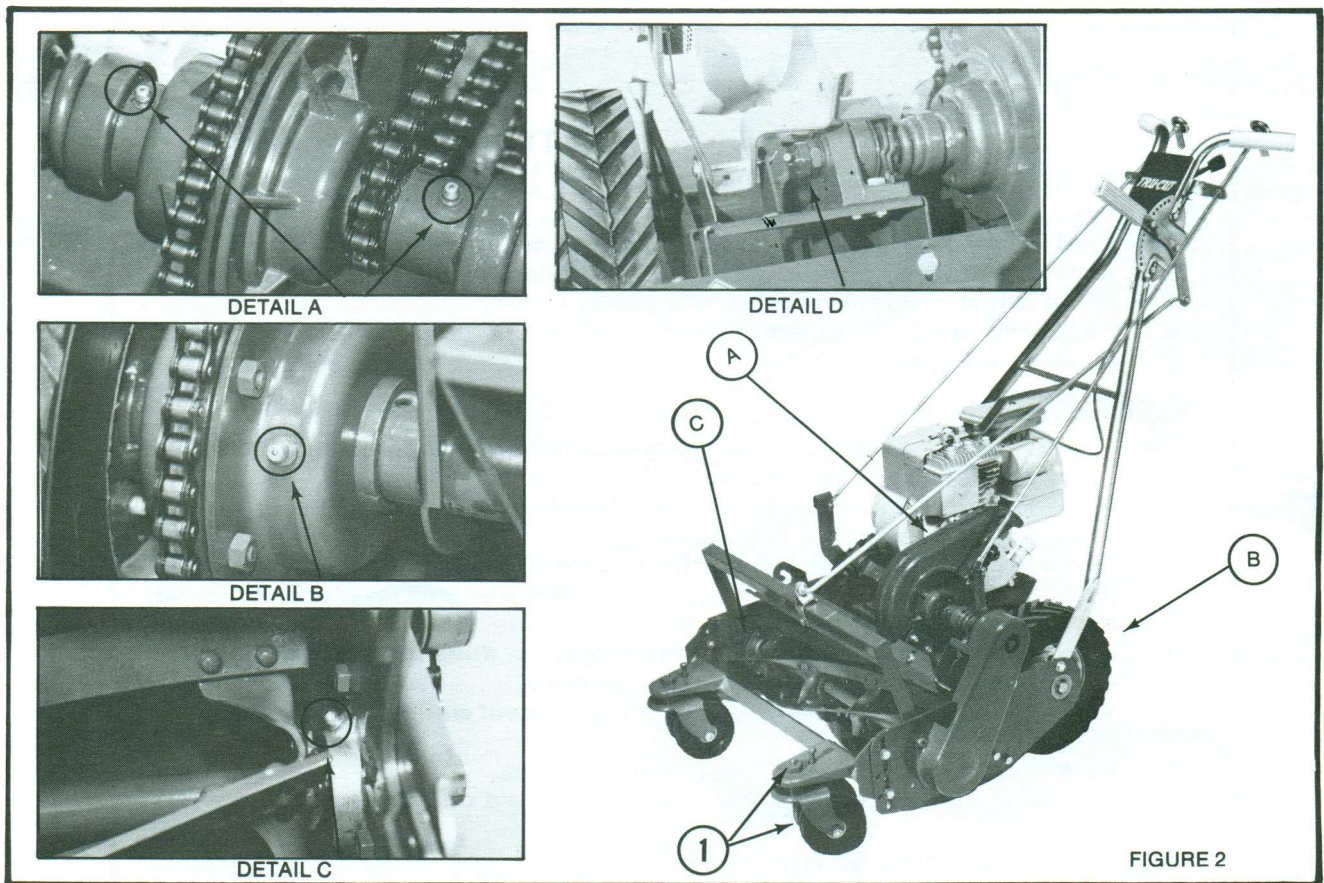

FIGURE 2
- A. Caster wheel (Item 1 Figure 2).
- B. Reel Bearings (Detail "C" Figure 2).
- C. Differential, on right hand housing (Detail "B" Figure 2).
- D. Clutch, on collar and reel cup (Detail "A" Figure 2).
Clutch, reel cup and end of shaft on 25" and 27" Commercial models (Detail "D" Figure 2).